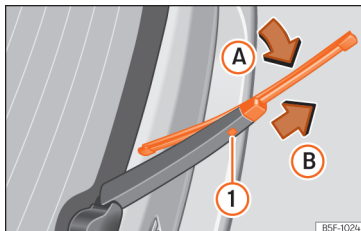

Fig. 41 Changing the rear wiper blade
- Turn the blade slightly » » Fig. 41 (arrow **A**).
- Hold down the release button ① while gently pulling the blade in the direction of arrow ②.
- Insert a new blade of the **same length and type** in the rear wiper arm in the opposite direction to the arrow ③ and hook into place button ④.